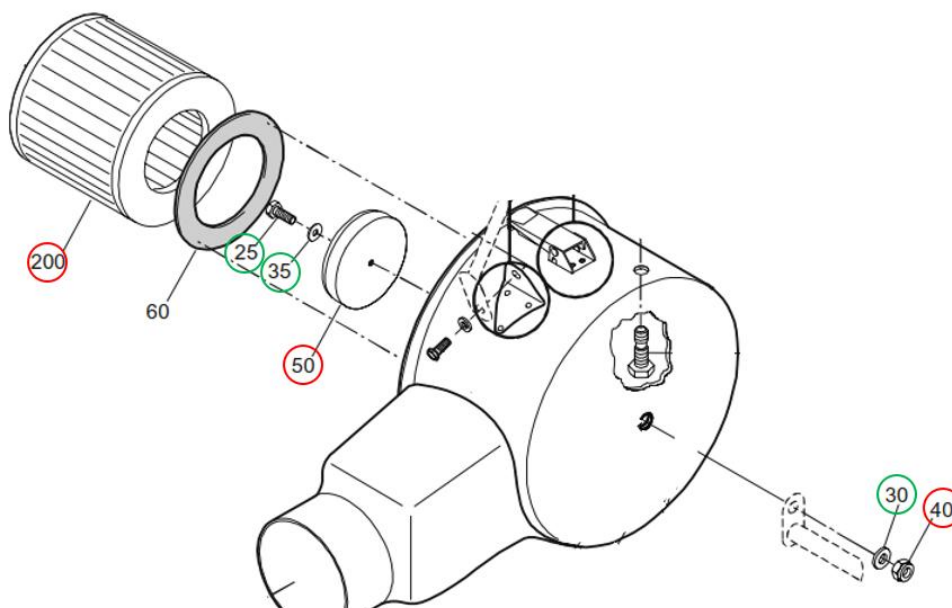

Figure 1
Note: The Figure 1 is for reference only and does not show the applicable air filter housing assy.
- 1.8.4 Remove the centering piece (Item 50 in Figure 1).
Discard the centering piece, self-locking nut (Item 40 in Figure 1) and the old air filter (Item 200 in Figure 1).